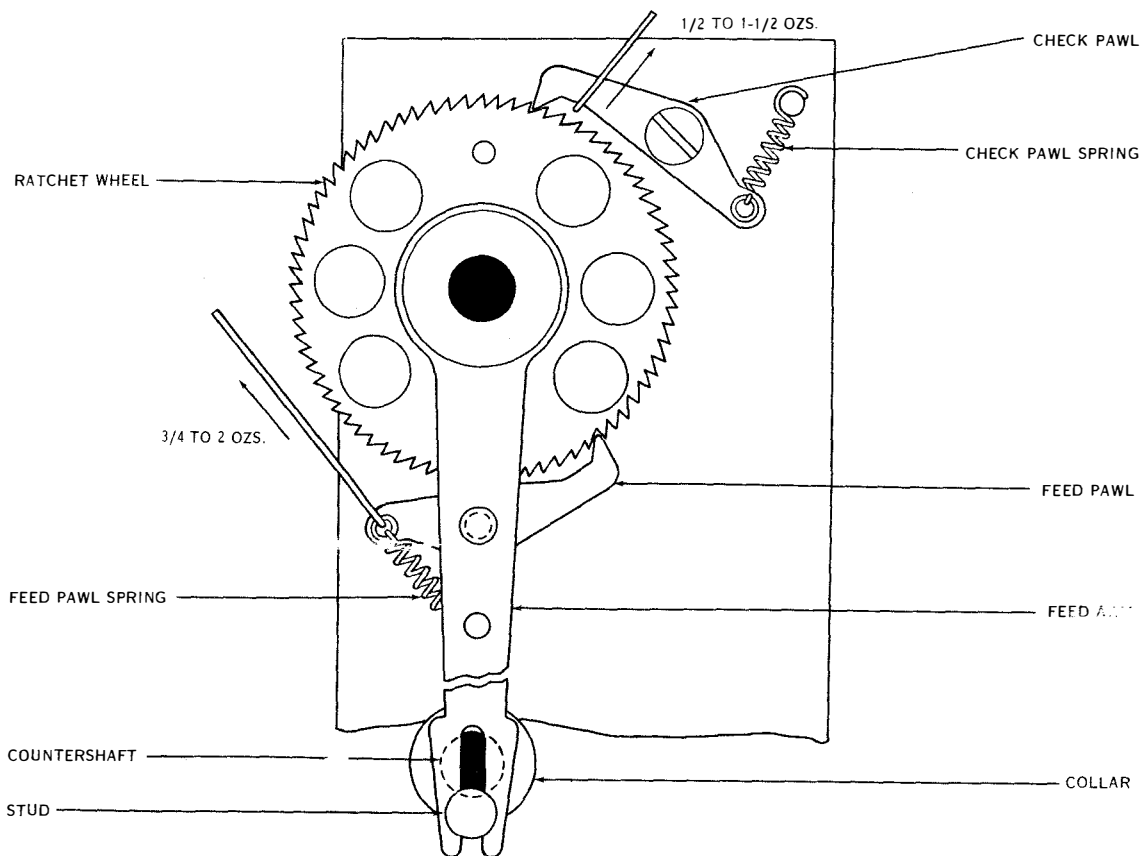

Figure 7-110. Check and Feed Pawl Spring
(10) CHECK PAWL SPRING TENSION. (See figure 7-110.)—Hook an eight-ounce scale at the inside radius of check pawl engaging tip and pull at right angle to the pawl. A pull of $1/2$ to $1 1/2$ ounces should be required to move the pawl completely out of engagement with the ratchet.
(11) FEED PAWL SPRING TENSION. (See figure 7-110.)—Hook an eight-ounce scale in the spring hole of the feed pawl and pull in line with the spring. A pull of $3/4$ to 2 ounces should be required to start the pawl moving. If these specifications are not met, replace the spring.
(14) CHECK PAWL. (See figure 7-110.)—With the motor running and one tape reel held stationary, the other two reels should rotate with as little backward motion as possible. To adjust, loosen the lock nut on the check pawl eccentric mounting post. Position the mounting post so the check pawl will drop into each